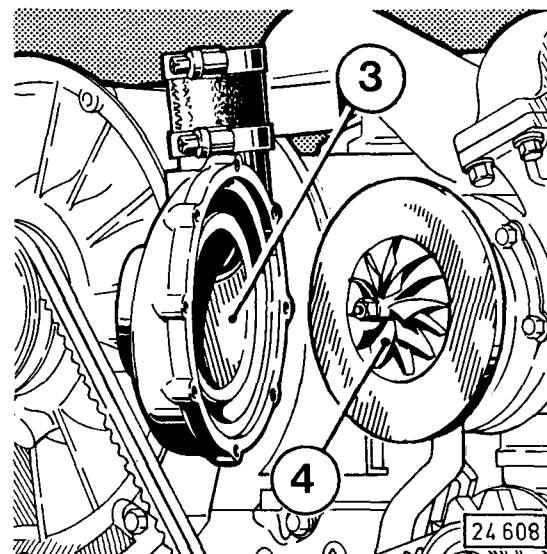

Fig. 65
- Clean compressor housing 3 (Fig. 65) and compressor wheel 4 with a nonaggressive cleaning agent (e. g. diesel fuel, P 3 or cold cleaning agent).